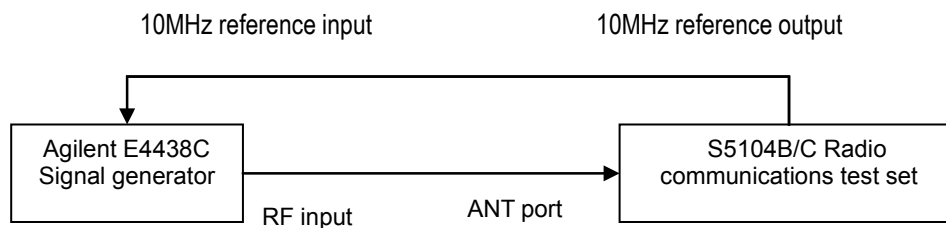

Fig. 6-11 Block diagram for sweep spectrum characteristics tests
- 1) As shown in Fig. 6-11, connect the test instrument, set the output frequency of the signal generator to 300 kHz and the amplitude to -10 dBm; set S5104B/C to the sweep spectrum mode with the center frequency of 300 kHz, the sweep of 100 kHz, the reference level of 0 dBm and the resolution bandwidth of 3 kHz;
- 1) As shown in Fig. 6-11, connect the signal generator to the ANT port of S5104B/C, and set S5104B/C to the sweep frequency spectrum mode; set the input frequency of the signal generator to 300 MHz; set the center frequency of S5104B/C to 300 MHz, sweep width to 100 kHz, and other parameters to auto;
- 1) As shown in Fig. 6-11, connect the signal generator to the ANT port of S5104B/C, set the output frequency of the signal generator to 300 MHz and the power to -10 dBm; set S5104B/C to the sweep frequency spectrum mode, with the center frequency of 300 MHz and the reference level of 0 dBm;
1) As shown in Fig. 6-11, connect the signal generator to the ANT port of S5104B/C, set the output frequency of the signal generator to 300 MHz and the amplitude to -10dBm, enable AM with the modulation rate of 100 Hz and the AM depth of 100%; set S5104B/C to the sweep spectrum mode, with the center frequency of 300 MHz, the sweep of 0 Hz, the reference level of 0 dBm, the amplitude unit of Volts and the sweep time of 100 ms;
1) As shown in Fig. 6-11, connect the signal generator with the ANT port of S5104B/C, and set S5104B/C to the broadband
1) As shown in Fig. 6-11, connect the signal generator to the T/R port of S5104B/C, and set the output frequency of the signal generator to 300 kHz and the amplitude to + 19 dBm. Set S5104B/C to the RF RX mode, narrow-band power measurement reference carrier to 300 kHz, reference level to +51 dBm, and IF bandwidth 10 kHz; record the measured narrow-band power value of the T/R port in corresponding space of Table A.1;
1) As shown in Fig. 6-11, connect the test instrument and set the output frequency of the signal generator to 300 kHz and the power to - 10 dBm; set S5104B/C to the RF RX mode, with the reference carrier frequency of 300 kHz, IF bandwidth of 10 kHz, and reference level of 0 dBm; enable the function of frequency error meter, and record the measured frequency error value in corresponding space in table A.1;
- 1) As shown in Fig. 6-11, connect the signal generator to the ANT port of S5104B/C, set the output frequency of the signal generator to 300 kHz, the output amplitude to -10dBm, and enable AM with the modulation rate of 20 Hz and the AM depth of 50%;